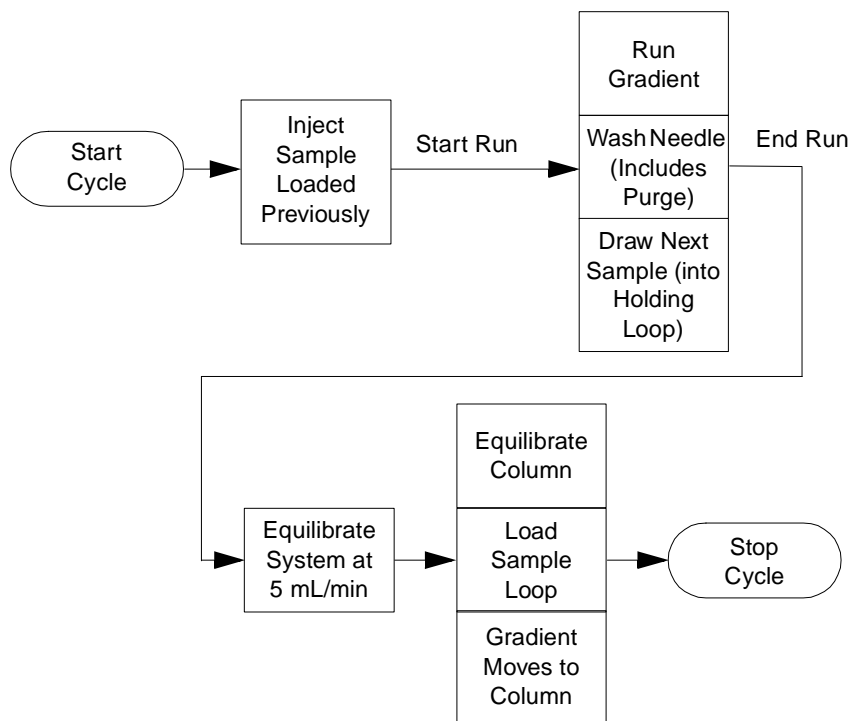

Figure 6-11 Parallel Processing with Rapid Equilibration Cycle for Gradient Chromatography
- **Parallel processing with rapid equilibration** – Some operations are performed concurrently, and the column is taken off-line while the system is equilibrated at a high flow rate (Figure 6-11).
To maximally increase 2795 throughput, you can combine parallel processing options, a fast system equilibration time, and “just-in-time” gradient delivery (Figure 6-11).